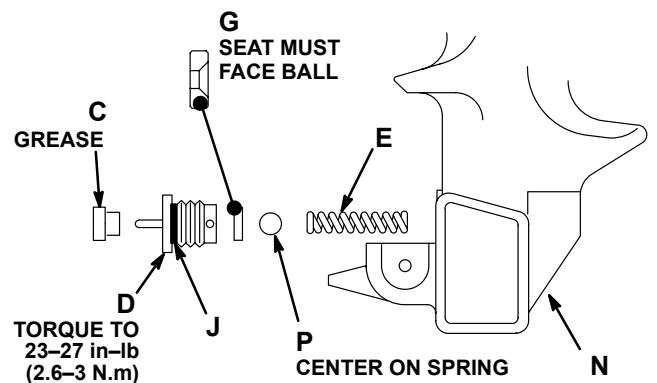

Fig 9 0293
11. Grease the seat (G) and place it on the fluid housing so the seat which is formed on the inside diameter faces out. See Fig 9.
12. Install the spring (E) in the spring cavity of the valve handle (N), then install the ball (F) so it is centered on the spring. See Fig 9.
13. Place the o-ring (J) around the fluid housing. Pushing lightly with your fingers, start the threads of the housing into the valve handle. Torque the housing to 23-27 in-lb (2.6-3 N.m). See Fig 9.
15. Grease the cap (C) and place it on the end of the needle. See Fig 9.